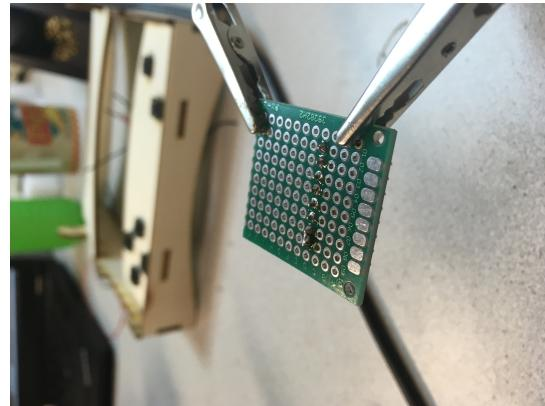
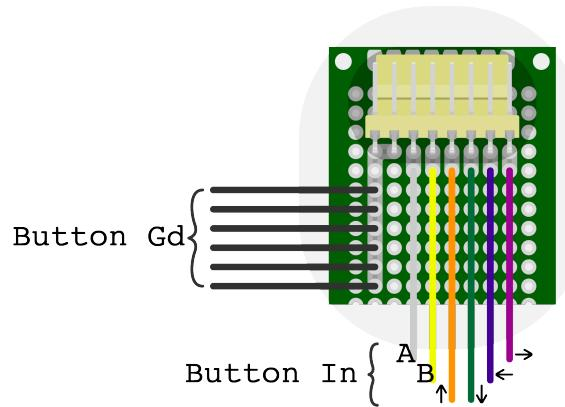

Figure 3.8: 8-pin-male-connector on perfboard
Figure 3.9: Soldering the buttons and connector to the perfboard, see Figure 3.7.
Step 3 Now solder the 8-pin-male-connector to the perfboard as shown in figure 3.8 and 3.9. Put the legs of this connector through the holes in row *C* or *D* on the perfboard (or *U/V* on the flip side). Please take a good look at the schematic in Figure 3.9, this is how the buttons will be connected on the perfboard.
Step 4 Bridge the first and second input (the black and red input), as shown in figure 3.9.